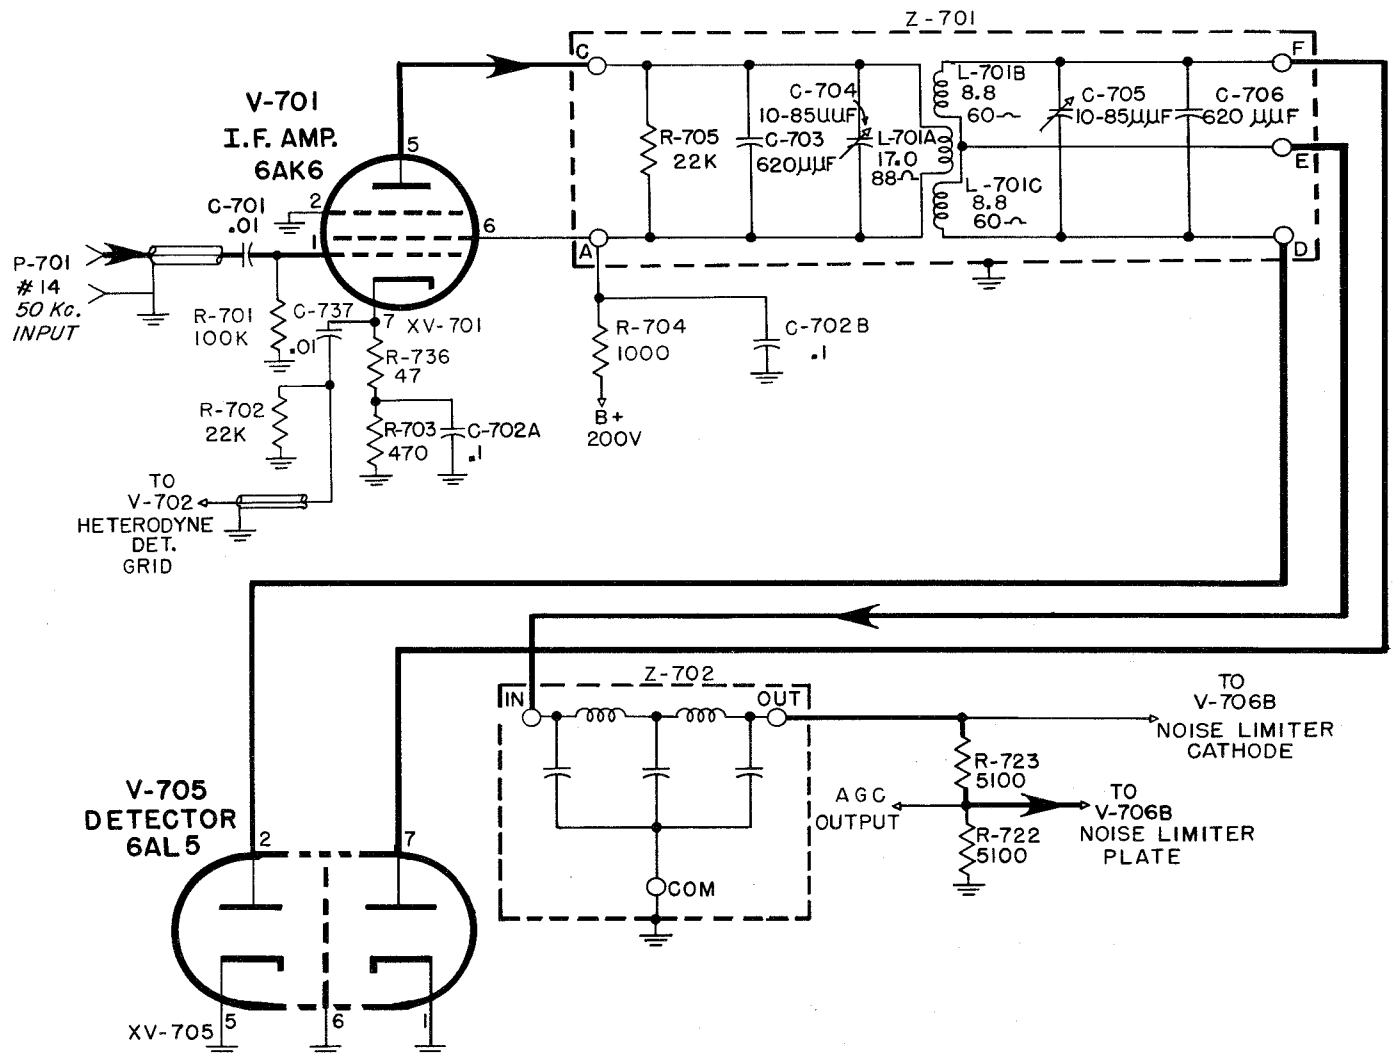

Figure 2-27. I.F. Amplifier V-701 and Detector V-705, Simplified Schematic Diagram
(1) I.F. AMPLIFIER V-701 AND DETECTOR V-705 CIRCUIT DETAILS (Amplifier-Detector AM-439/FRR-24). (See Figure 2-27).—The output of the 50-kc. I.F. amplifier system is connected into the Amplifier-Detector AM-439/FRR-24 through input connector J-705. The signal is capacitively coupled to the grid of the I.F. Amplifier tube V-701, a type 6AK6, through coupling capacitor C-701. The I.F. stage has an approximate gain of 10, (i.e. a one-volt